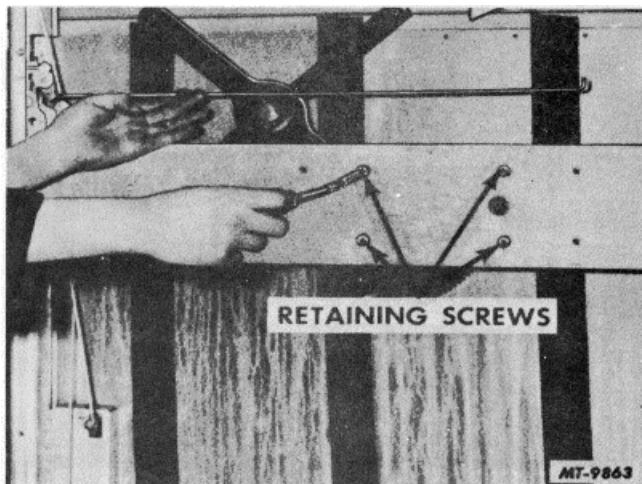

Fig. 12
2. Remove window regulator retaining screws, Fig. 12.